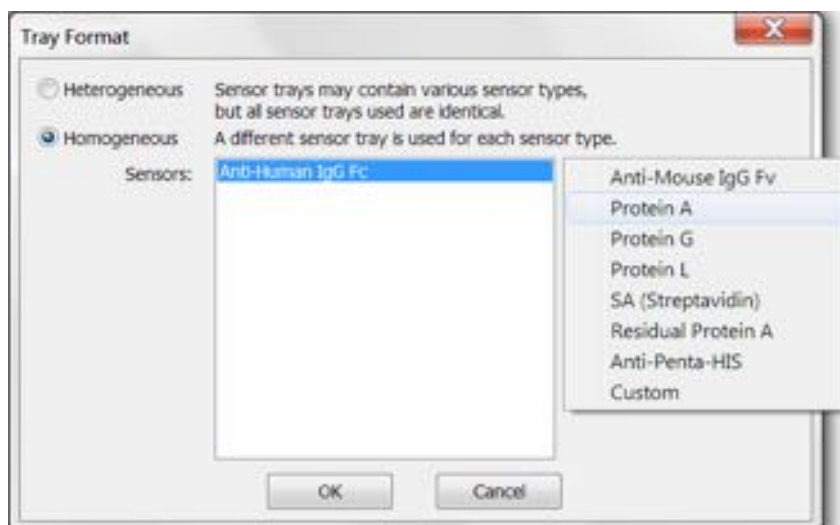

Figure 7-57: Selecting a Biosensor Type in the Tray Format Dialog Box
2. Select **Homogeneous**. Click **Add** to select the first biosensor type (see Figure 7-57).